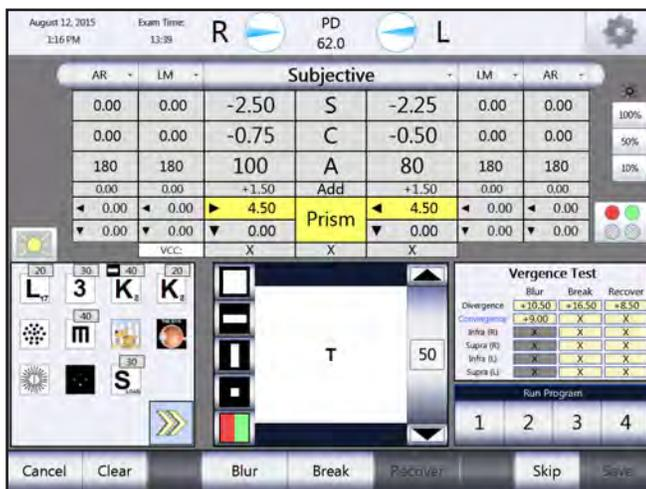

Figure IU-32, Power of Convergence - Blur Break
1. Set the acuity chart to a single vertical line of optotypes at or near the patient's visual acuity. (Please refer to Figures IU-32 & IU-33.)